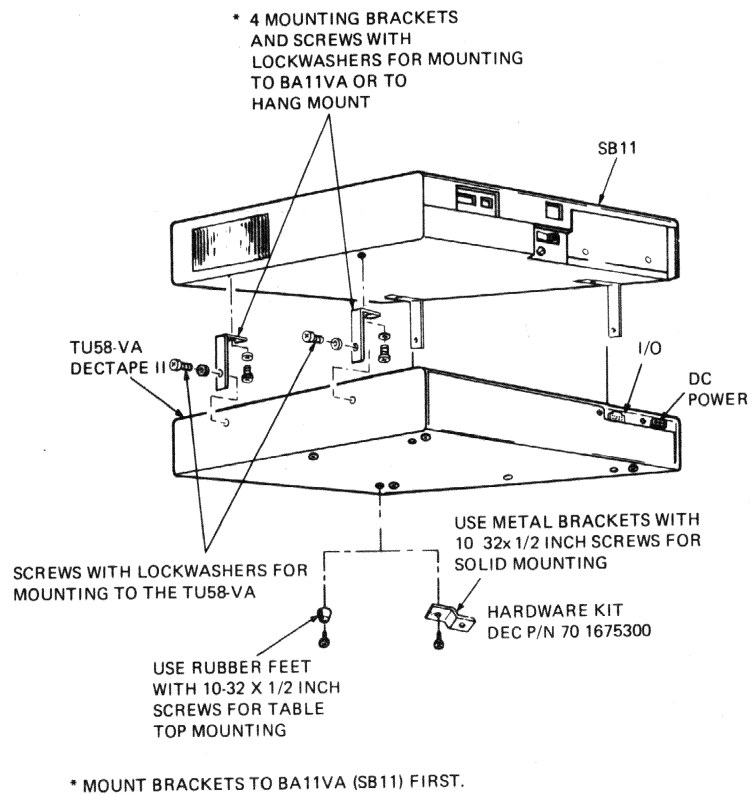

Figure 4-14 Mounting Choices for the TU58-VA
3. Remove the rubber feet from the SB11 (or BA11-VA) if attached by removing the screws securing them to the bottom. Fasten the four brackets to the bottom (bend on the outside edge) using four screws and lock washers (Figure 4-14).
4. Position the SB11 (or BA11-VA) rightside-up over the TU58-VA so the mounting brackets line up with the holes on the side of the TU58-VA. Fasten to the TU58-VA using four screws and lock washers (Figure 4-14).